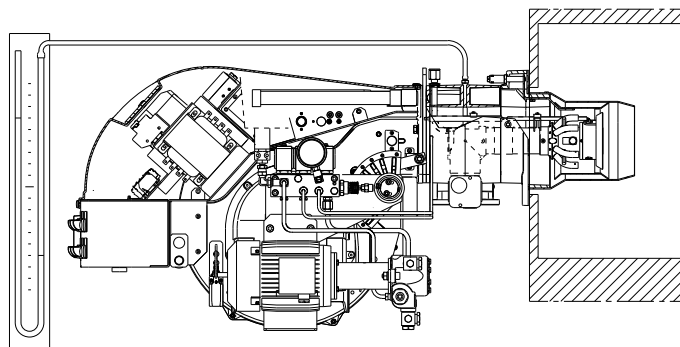

Fig. 40
- Fit a U-type manometer (Fig. 40) to the gas pressure test point on the sleeve.